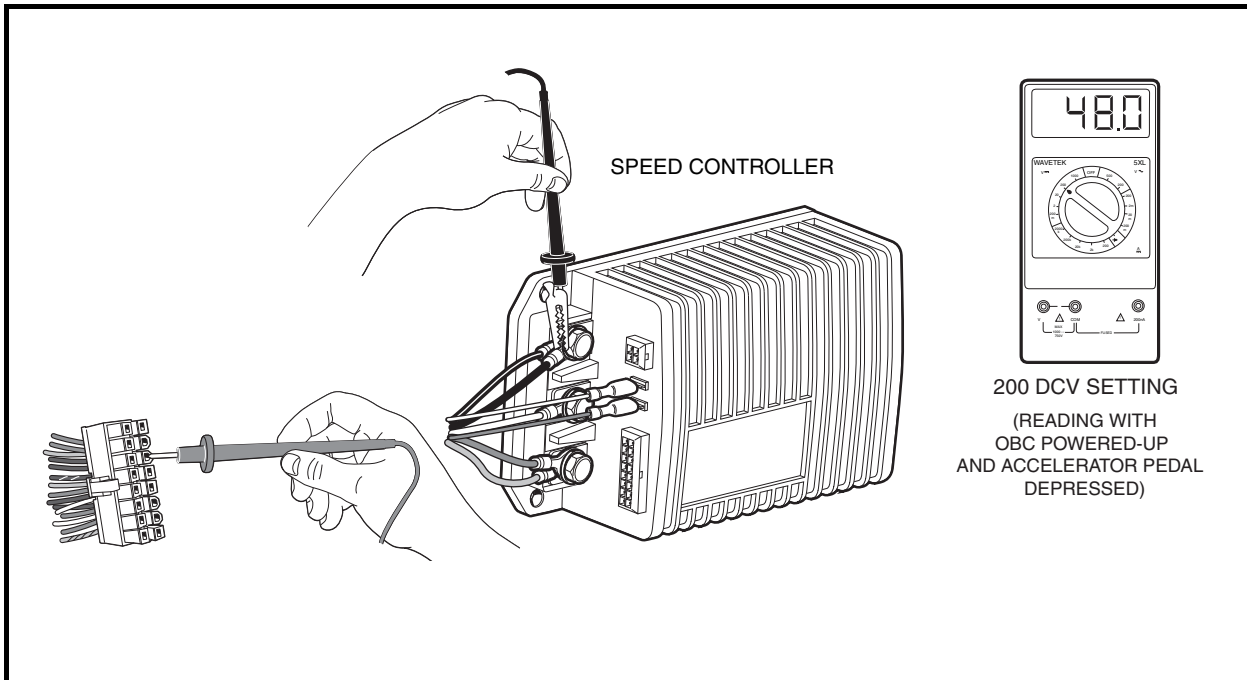

Figure 11-16 Pin 6 Test
4. Set a multimeter to 200 volts DC, insert the red (+) probe of the multimeter into pin 6 (green wire) of the 16-pin connector. **See following CAUTION.** Using an alligator clip, connect the black (–) probe to the B– terminal of the speed controller (**Figure 11-16, Page 11-29**).